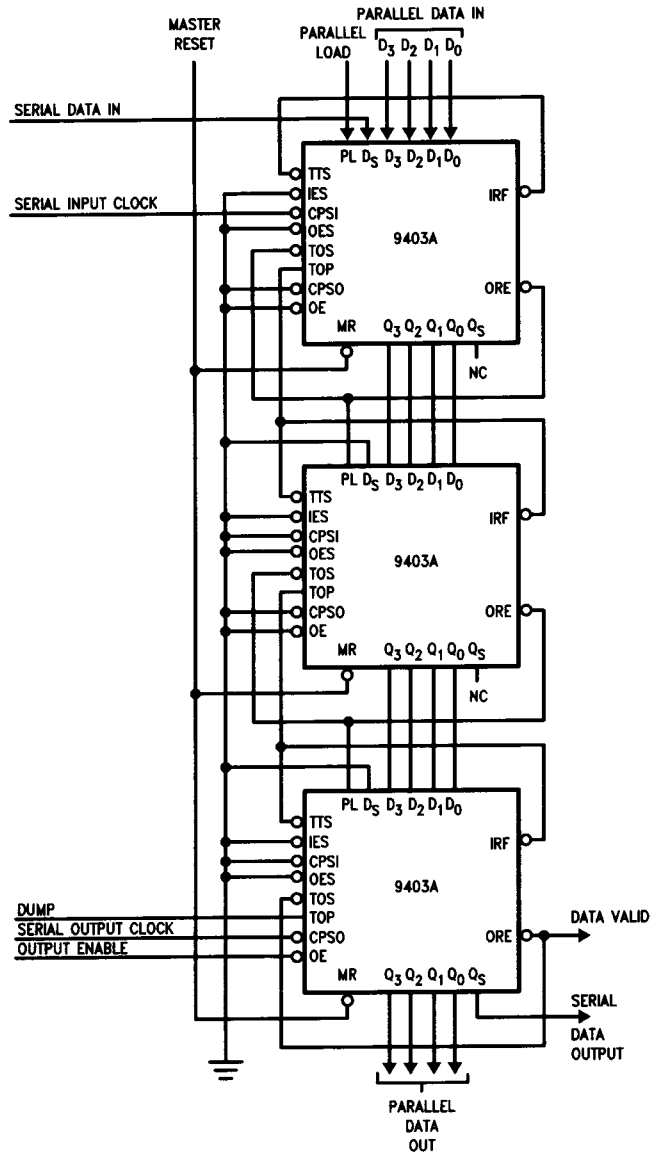

FIGURE 4. A Vertical Expansion Scheme
**Vertical Expansion**—The 9403A may be vertically expanded to store more words without external parts. The interconnection is necessary to form a 46-word by 4-bit FIFO are shown in Figure 4. Using the same technique, and FIFO of